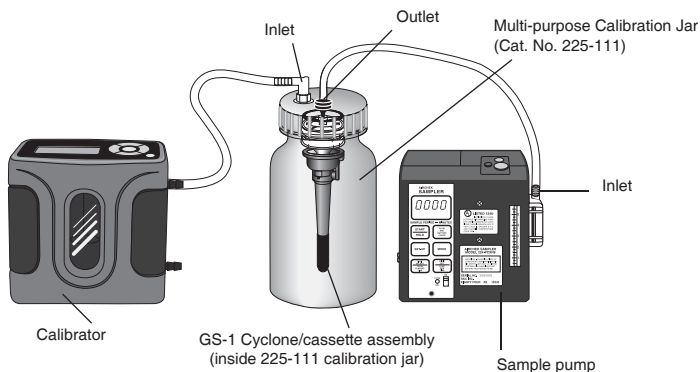

Figure 3
2. Place cyclone/cassette assembly into an airtight calibration jar that contains an inlet and outlet (SKC Cat. No. 225-111; see Figure 3).